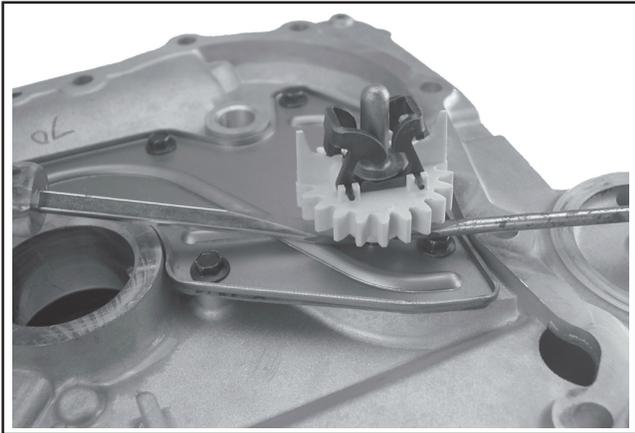

Figure 8-37. Removing Governor Gear.
1. Remove the governor gear and regulating pin assembly. Gently pry upward using the blades of two small screwdrivers. See Figure 8-37.